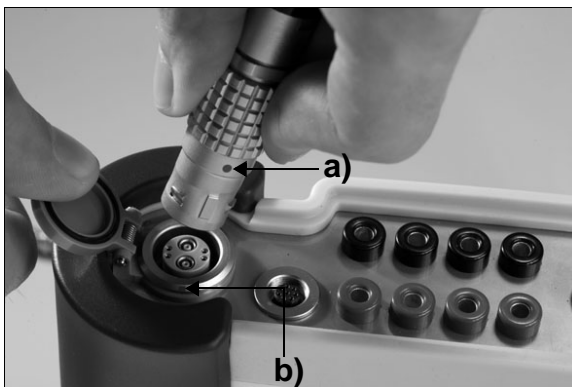

Fig. 5.1: Connection of the transducers to the flowmeter
- Insert the connector of the transducer cable in the socket of the flowmeter. The red point on the connector (a) must face the red marking (b) on the socket (see Fig. 5.1).